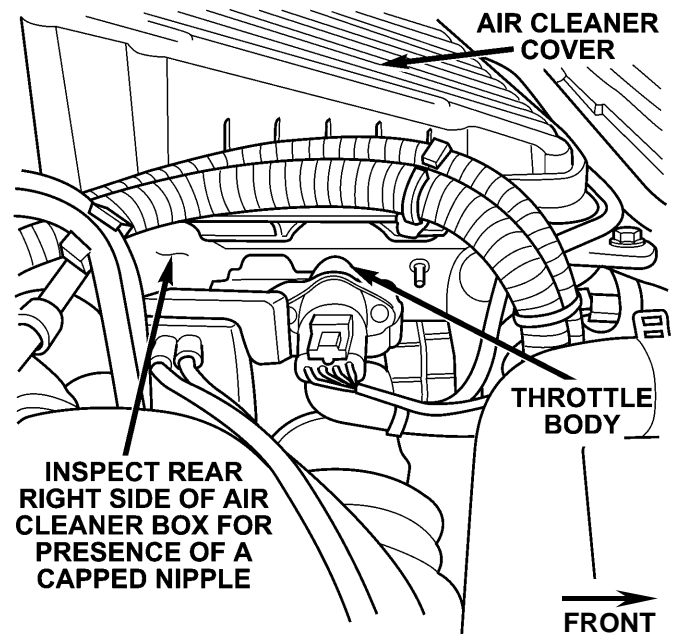

Figure 3
5. Inspect the air cleaner for the presence of a capped nipple on the rear of the right side (Figure 3).